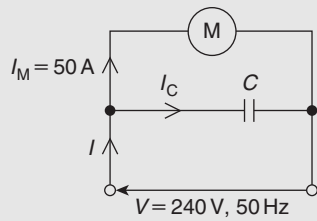

Figure 16.16
**Problem 11.** In the circuit of Fig. 16.16, what value of capacitor is needed to improve the power factor from 0.6 lagging to unity?
From a.c. theory, in the circuit of Fig. 16.16,